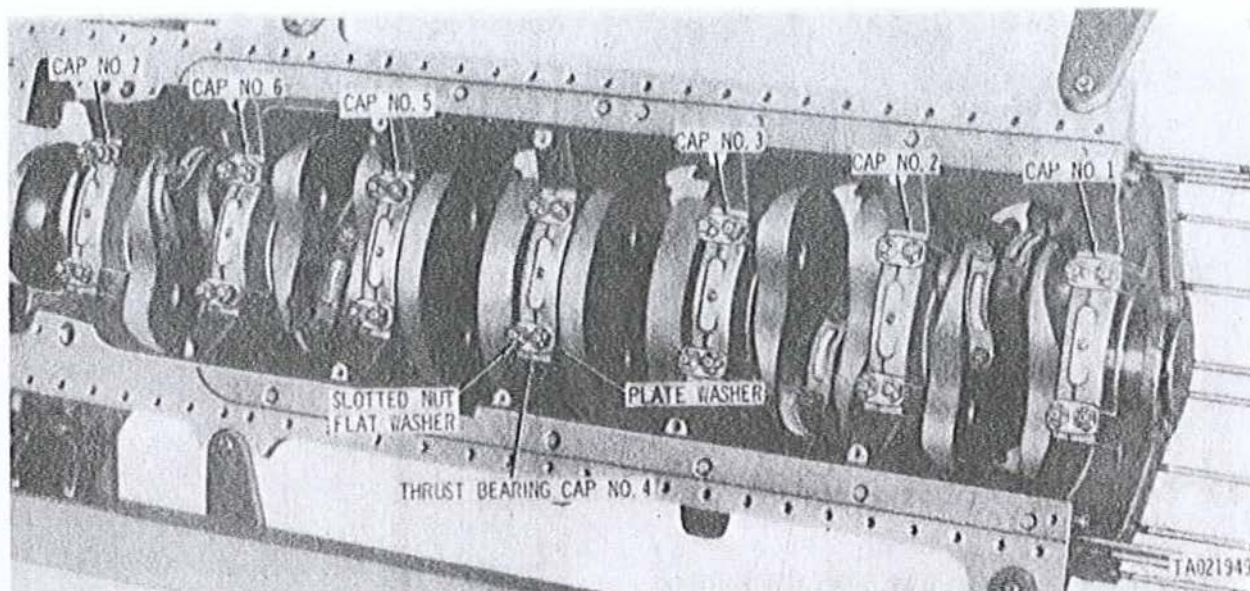

Figure 3-129. Removing or installing main bearing attaching parts.
c. Cut locking wire and remove 24 slotted nuts (fig. 3-129) and 12 plate washers attaching main bearing caps, numbers 1, 2, 3, 5, 6, and 7 to crankcase assembly. Cut locking wire and remove four slotted nuts and two plate washers attaching main thrust bearing cap (No. 4 or center) to crankcase assembly.